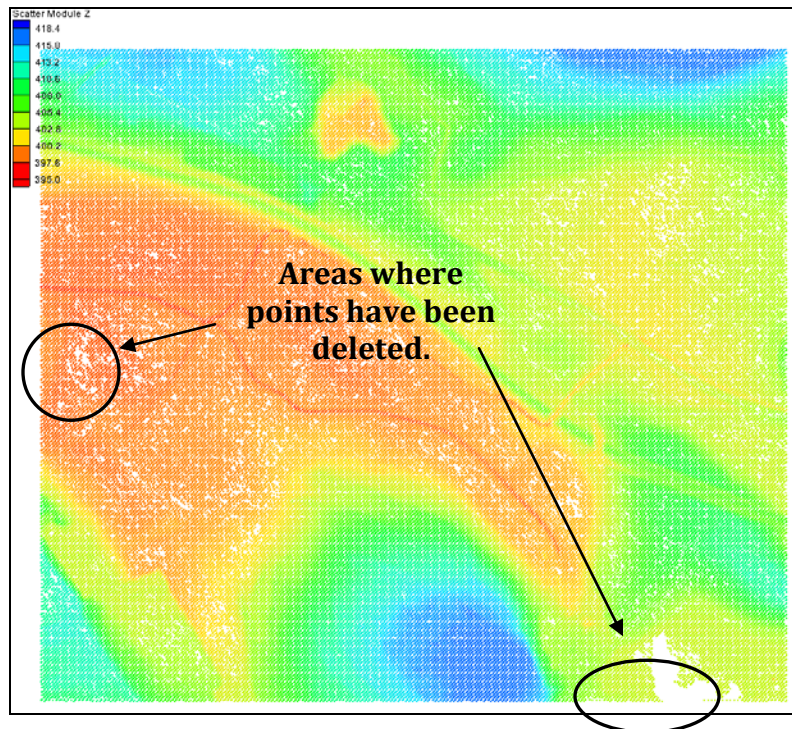

Figure 17 Scatter set after filtering by angles.
3. Change the Filter angles to 2 degrees and click *OK*. It might take a little while for the all data points to be found and deleted. In this case around 50,000 points can be deleted. This represents about 9% of the total. (Note: SMS re-triangulates the remaining points, so any editing of the TIN you may have performed on the original will be lost.) The screen should now look like Figure 17. Notice the blank spaces where the data has been deleted.